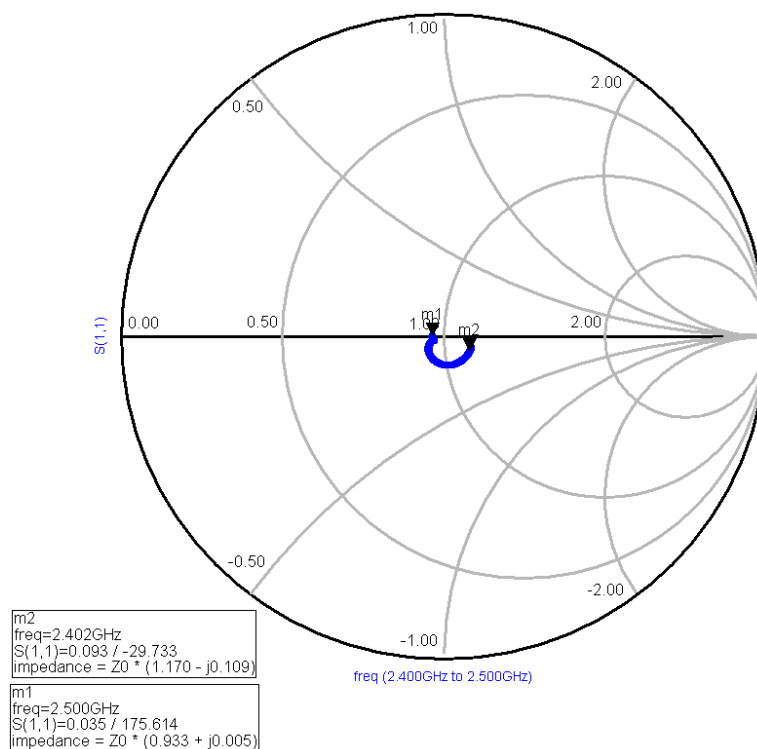

Figure 4. TX and RX Pin 50Ω Impedance Characteristics
(1) Typical operating conditions are at 3.3V operating voltage and 25°C ambient temperature.
(2) The receiver sensitivity is measure at the device interface.
(3) The $f_0 = -64$ dBm Bluetooth modulated signal, $f_1 = -39$ dBm sine wave, $f_2 = -39$ dBm Bluetooth modulated signal, $f_0 = 2f_1 - f_2$, and $|f_2 - f_1| = n \times 1\text{MHz}$, where n is 3, 4, or 5. For the typical case, n = 3.
(4) Reference Smith chart Figure 4.
(4) Modulation index set between 0.28 and 0.35.
(5) Not tested in production.
(6) Out-of-Band spurs only exist at 2nd and 3rd harmonics of the CW frequency for each channel. Performance of the radio is significantly better than BT 1.1 specification.
(7) Reference Smith chart Figure 4.